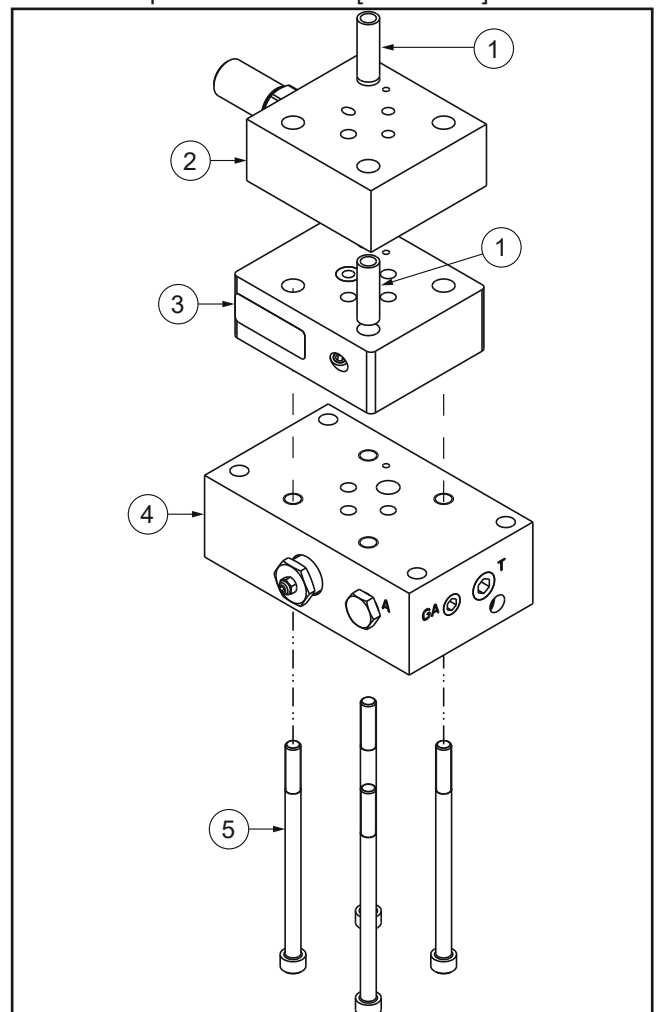

Figure 2: VUV5 Assembly
1. Install the inserts (Item 1, Figure 2) in the kick-down relief valve (Item 2, Figure 2) and in the venturi block (Item 3, Figure 2).
2. Mount the the kick-down relief valve (Item 2, Figure 2) on top of the venturi block (Item 3, Figure 2), and then on top of the manifold block (Item 4, Figure 2) included in the kit.
4. Mount and tighten the 4 M80x130 screws (Item 5, Figure 2) included in the kit from the bottom of the manifold.